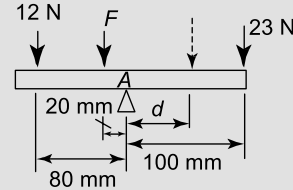

Figure 5.5
**Problem 4.** A beam is supported on its fulcrum at the point  $A$ , which is at mid-span, and forces act as shown in Figure 5.5. Calculate (a) force  $F$  for the beam to be in equilibrium (b) the new position of the 23 N force when  $F$  is decreased to 21 N, if equilibrium is to be maintained.